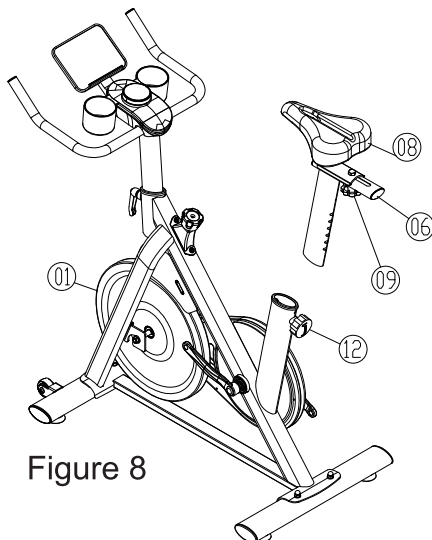

Figure 8
8. Slide the pre-assembled seat (Parts 06/08/09) into the Main Frame Assembly (Part 01), as shown in Figure 8.